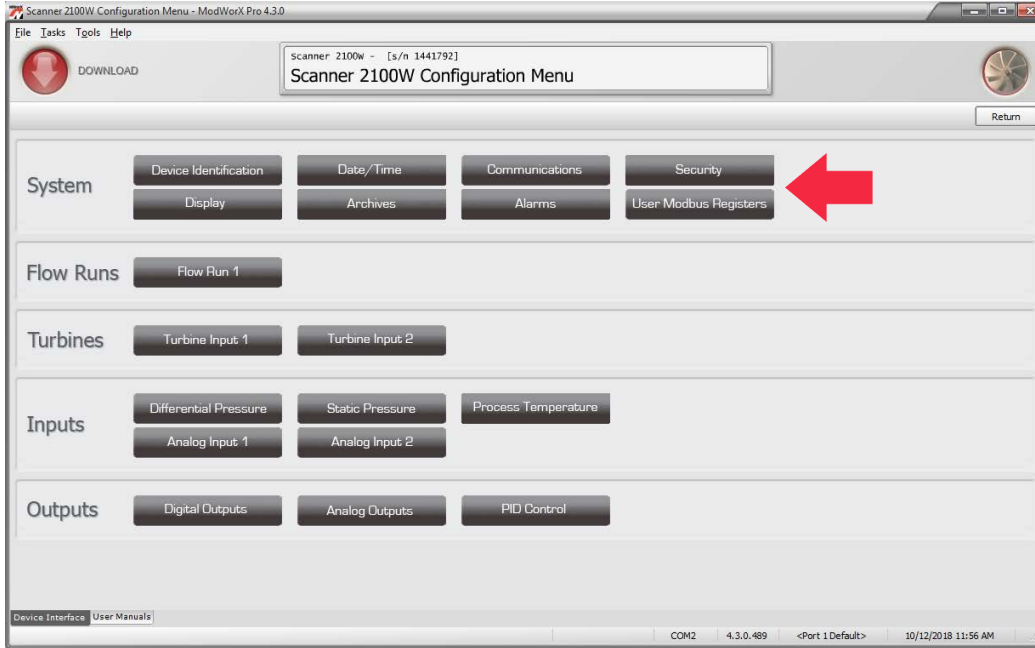

Figure 3.2
2. Then, click on the appropriate parameter in the System section of the Configuration Menu screen (Figure 3.2, page 26).